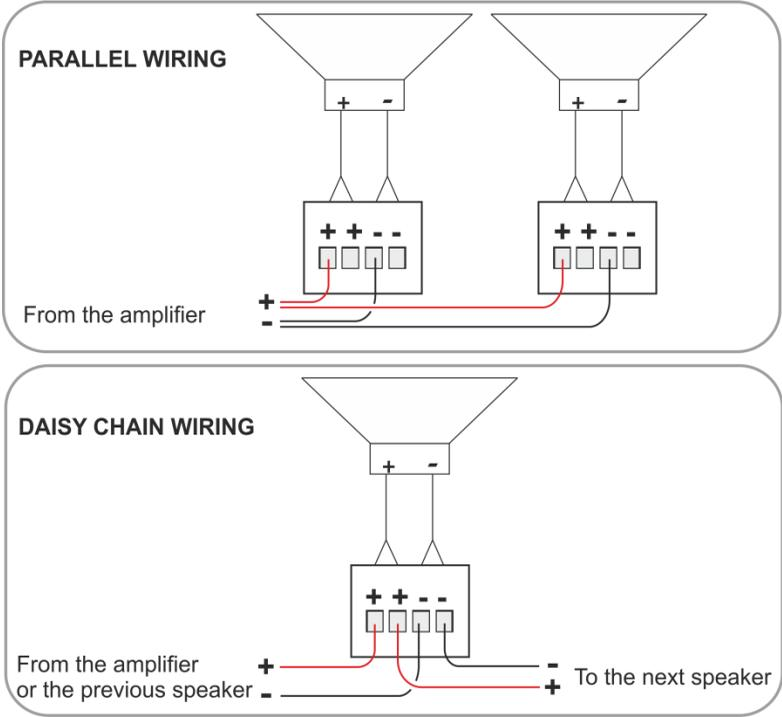

Figure 3: Galil 6-C Schematic Diagram
Figure 3 shows a schematic diagram of the Galil 6-C:
- **Wiring in parallel:** connect the wire pair of the subsequent speaker to PIN 2 and PIN 3. When one input connector is removed, subsequent speakers will remain connected (see Figure 3)
- **Daisy-chaining:** connect the wire pair of the subsequent speaker to PIN 1 and PIN 4. When one input connector is removed, subsequent speakers will be disconnected (see Figure 3)